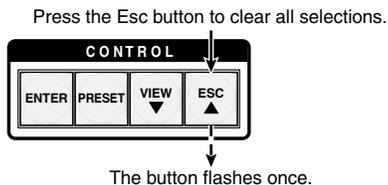

Figure 3-17 — Clear all selections
1. Press and release the Esc button (figure 3-17).